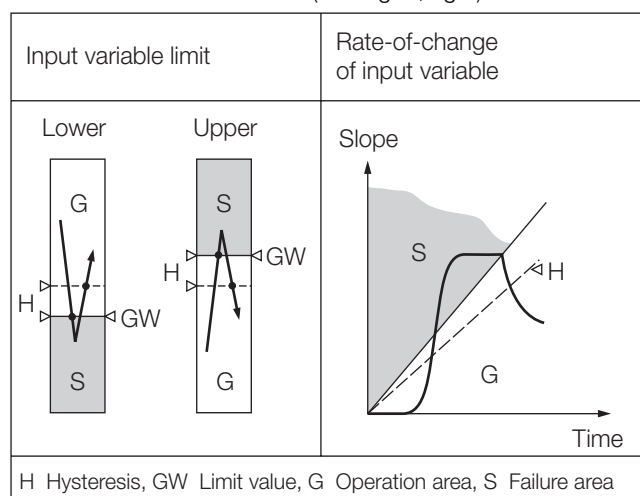

Fig. 4. Switching function according to limit monitored.
- Lower limit value of the measured variable (see Fig. 4, left)
- Upper limit value of the measured variable (see Fig. 4, left)
(see Fig. 4, right)